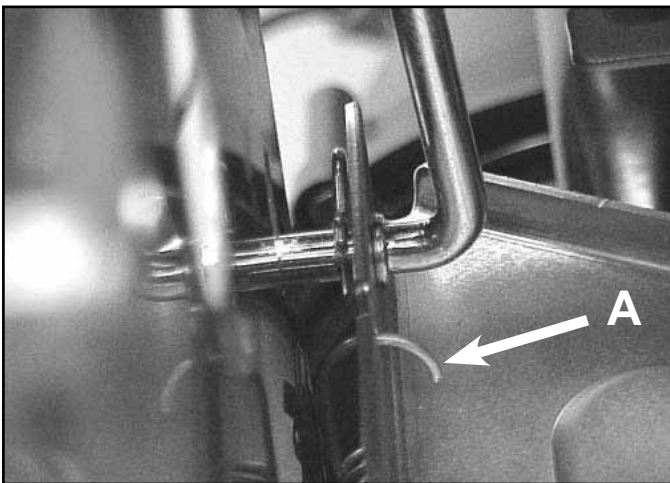
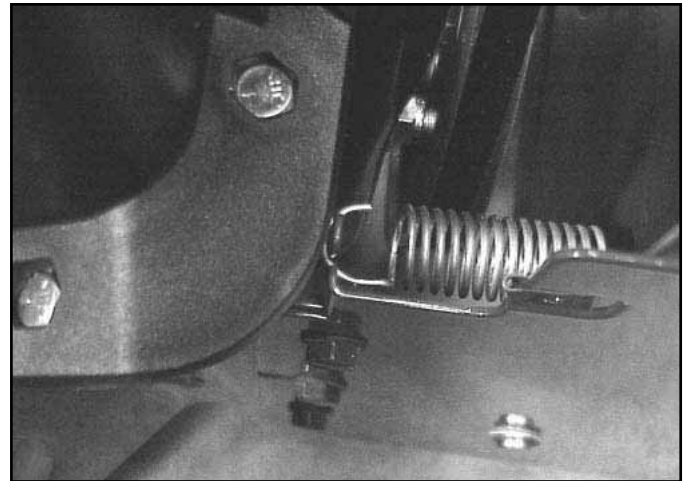

Fig 150 MVC-039X.jpg
Fig 151 MVC-041X.jpg
4. Install long end of spring to cut out on the pivot plate (Fig. 150) and the short end of the spring to the frame (Fig. 151).